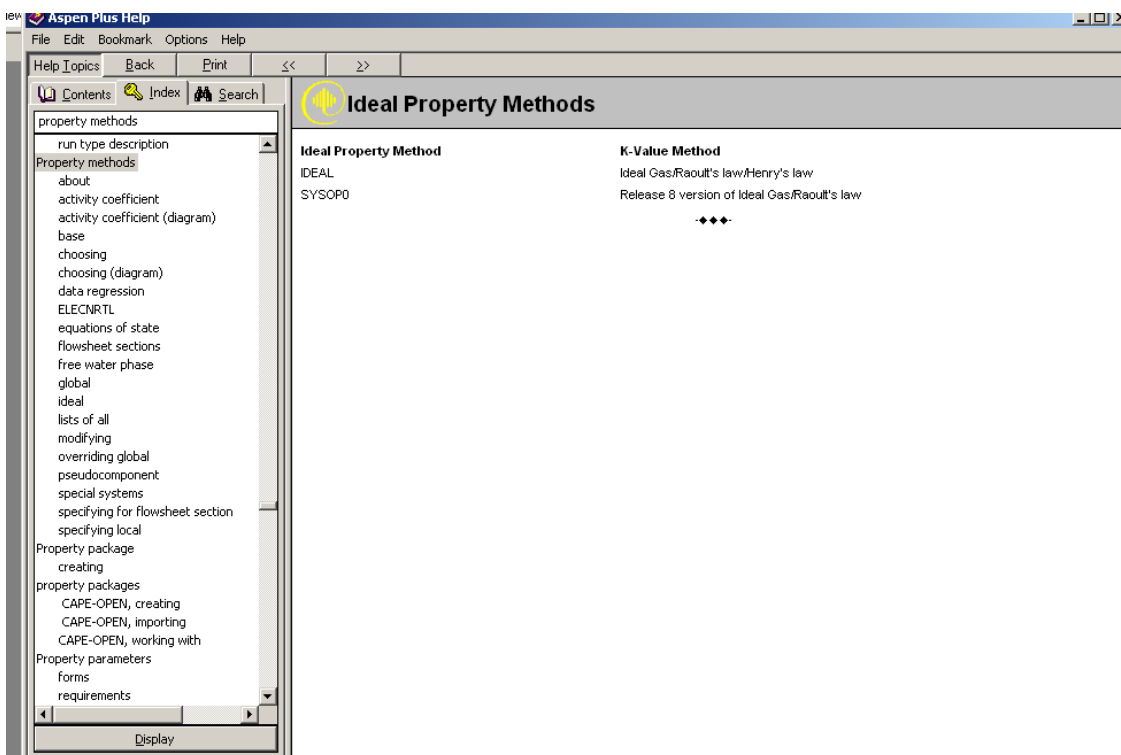

Figure 2: Ideal Property Methods
You can use the right arrow button to page through the Help window's information on the available thermodynamic methods. Hitting it once will bring you to the first group of available methods, which is the Ideal group, as shown in Figure 2. Thermodynamic phase equilibrium can be determined in a number of ways, including chemical potential, fugacity, activities, activity coefficients, or the equilibrium distribution ratio. You will notice that the Ideal methods rely on using ideal system equations to calculate the equilibrium distribution ratio (K), which is then used to determine the equilibrium conditions.